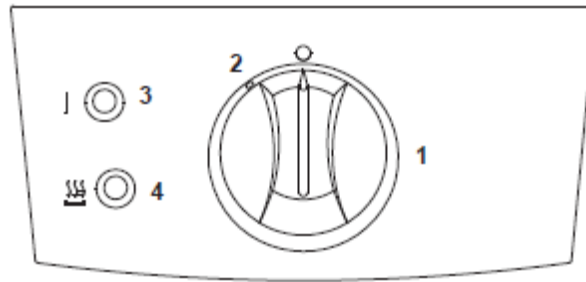

Figure 2 – G401/G401F Control Panel
#### 2.4.1 G401/G401F Fryer Control Panel (See Figure 2)
- e) Turn control knob to desired temperature (*140°C*) (*G401/G401X/G401F/G401FX only*) and heat demand indicator will illuminate (*Figure 2, item 4*).